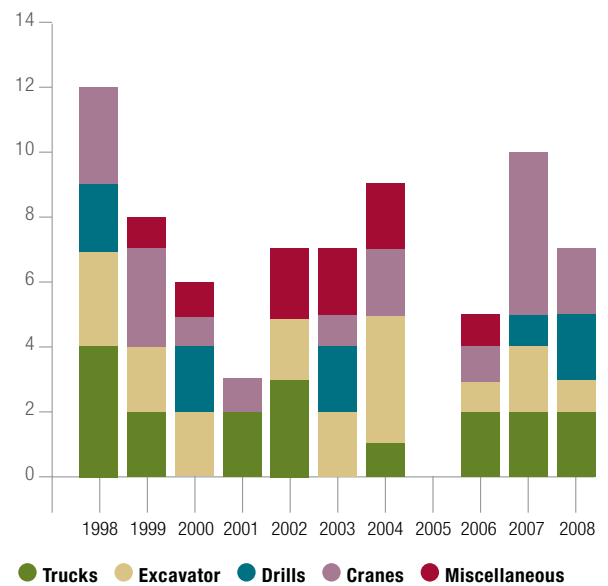

Figure 1 Graph showing number of powerline contacts reported to Resources Safety between 1998 and 2008
- excavators cause the highest number of powerline contacts (Figure 1)